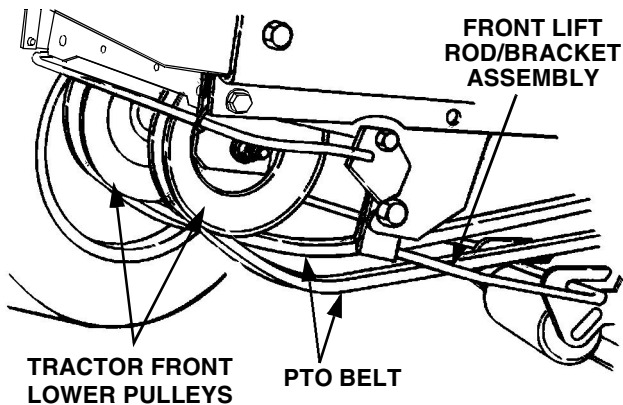

Figure 6-14
6. Pass the PTO belt downward, inside the tractor frame, until the belt is below the two tractor front lower pulleys and pull the belt clear of the tractor (See Figure 6-14).